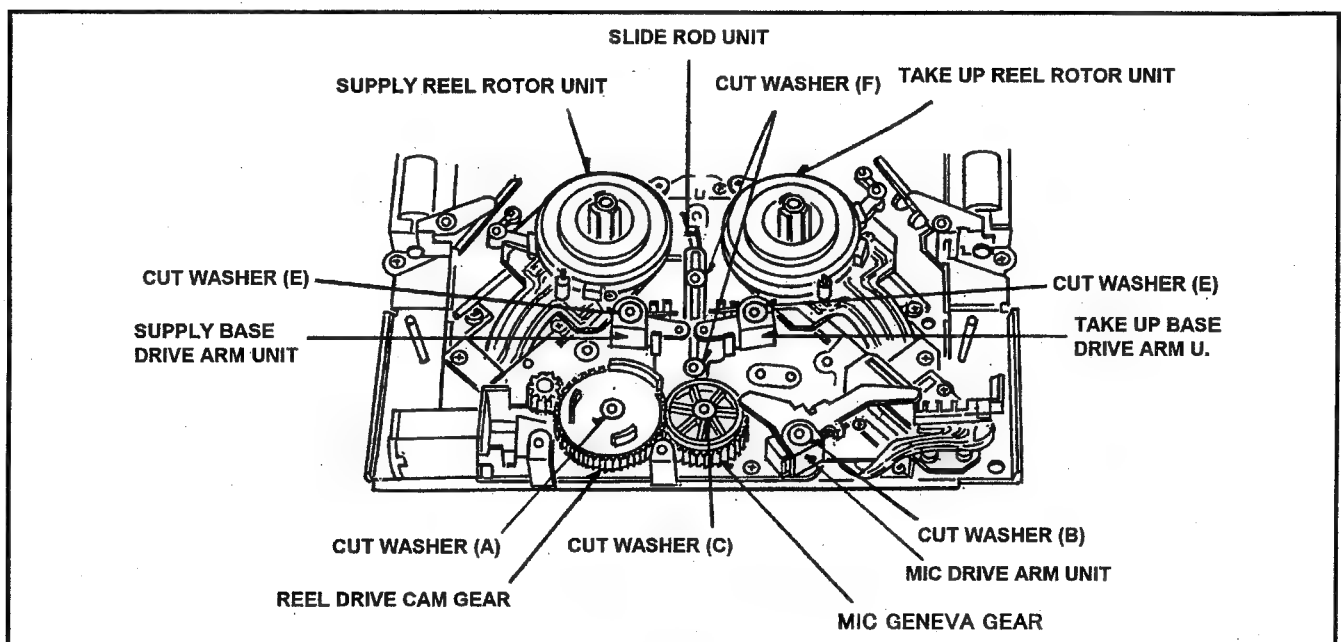

Fig. 6-22-1 Removal of Slide Rod Unit
3. Remove the L-M Release Angle Unit. (Refer to item 6-21).
4. Remove the Reel Drive Sensor P.C.Board (Refer to item 6-16).
5. Remove the Cut Washer (A) and remove the Reel Drive Cam Gear as shown in Fig. 6-22-1.
6. Remove the Cut Washer (B) and remove the MIC Drive Arm Unit as shown in Fig. 6-22-1.
7. Remove the Cut Washer (C) and remove the MIC Geneva Gear as shown in Fig. 6-22-1.
6. Install the Cut Washer (A), (B) and (C) as shown in Fig. 6-22-1.